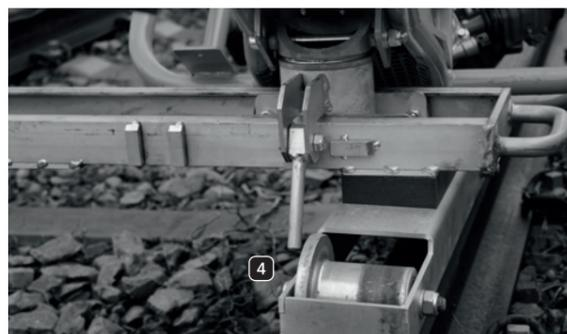

Figure 23: Locking the machine into position
2. Use 4 people to lift the machine, each holding one of the lifting handles, and insert the thorn 1 in the machine support 2 on the trolley (see Figure 23: Machine support).